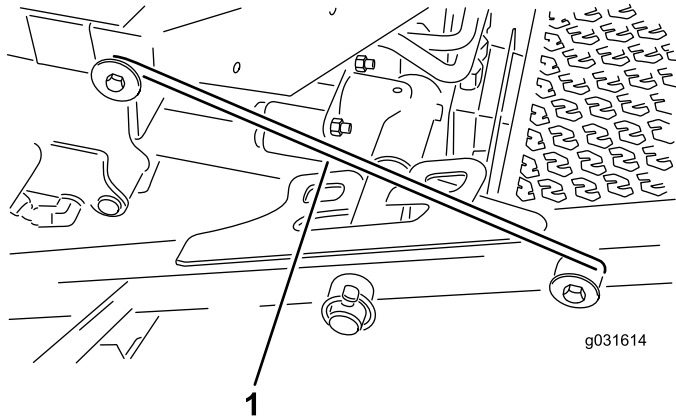

Figure 30
4. Release the latch rod from the front carrier-frame retainer (Figure 30).
5. Lift the outside of the front cutting decks and place the latch over the frame pin mounted on the front of the operator's platform (Figure 30).